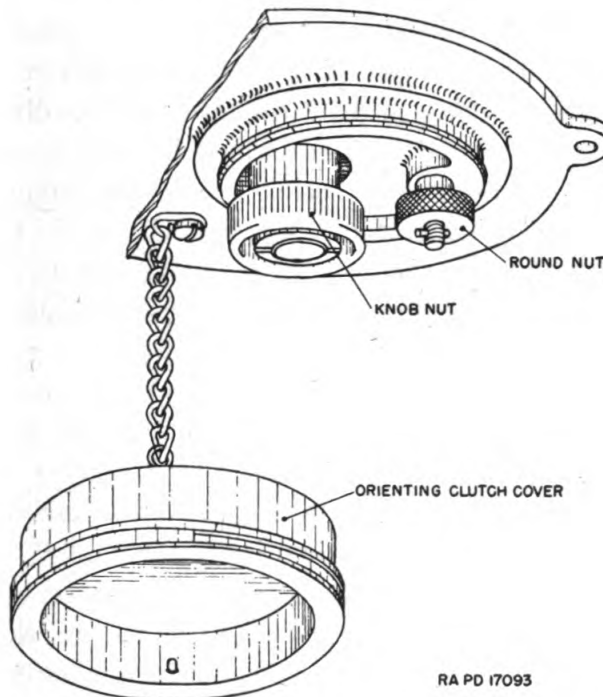

FIGURE 94.—Orienting clutch cover for adjustment.
*e. Orientation in azimuth.*—Turn power on at the generating unit. Pull the azimuth oil gear clutch operating handle (on the gun) to the rear and traverse the gun until it points in the same direction as the director telescopes, then push the operating handle forward, energizing the remote control system. Traverse the director until the gun is directed on a distant reference point. Unscrew the orienting clutch cover under the azimuth side of the director (fig. 94). Lock the transmitters by screwing up the small knurled round nut, and disengage the orienting clutch by unscrewing the large knurled knob. Grasp the slewing clutch and rotate the director until the telescopes are aligned on the reference point. Screw the large knob up tight, and release the transmitters by loosening the small nut. Replace the orienting clutch cover. Check the orientation by traversing the direc-